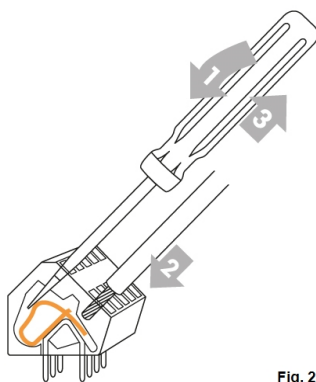

Fig. 2
3. Open clamps with a fitting screwdriver (figure 2) and connect electrical system to the controller.